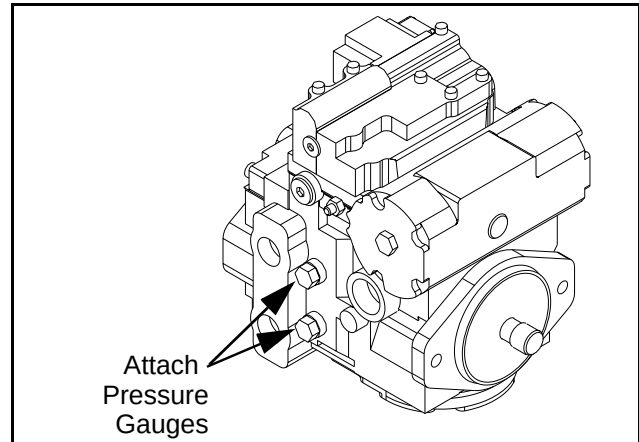

Figure 5 - 17 High Pressure Test Ports
- 4) Install a 10,000 psi pressure gauge into each of the two high pressure ports on travel pump. (Figure 5 - 17)